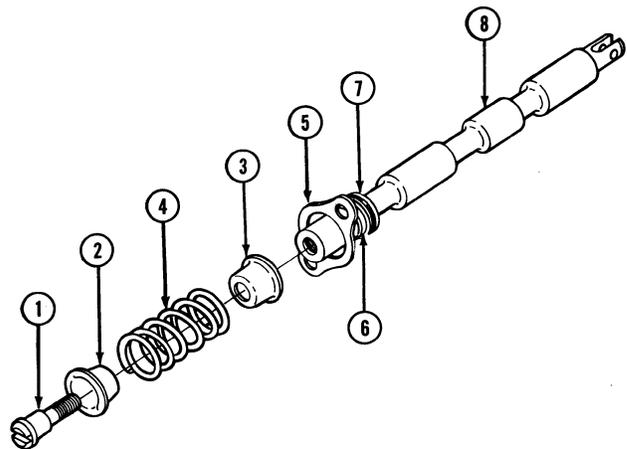

Figure 11
- First install the O-ring (7), wiper (6) and seal plate (5) on the spool (8), Figure 11.
- Install the bottom spring seat (3), spring (4), top spring seat (2), and cap screw (1) in this order, Figure 11.